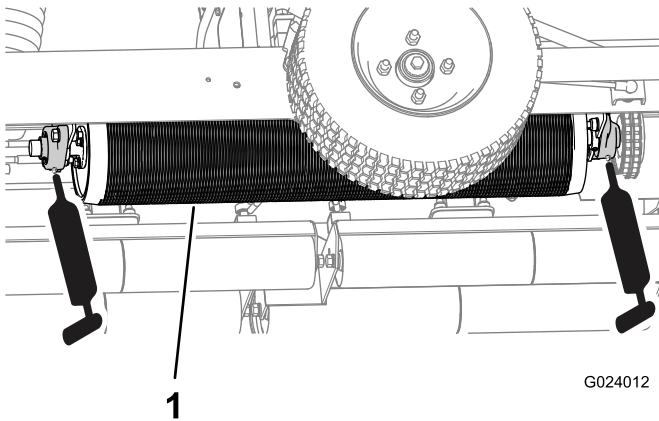
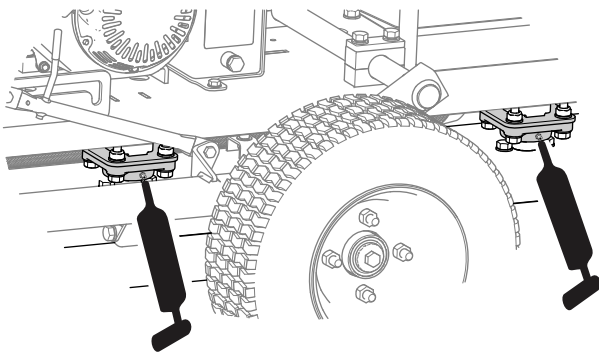

Figure 10
Figure 11
2. Pump grease into the areas as shown in Figure 10 and Figure 11.